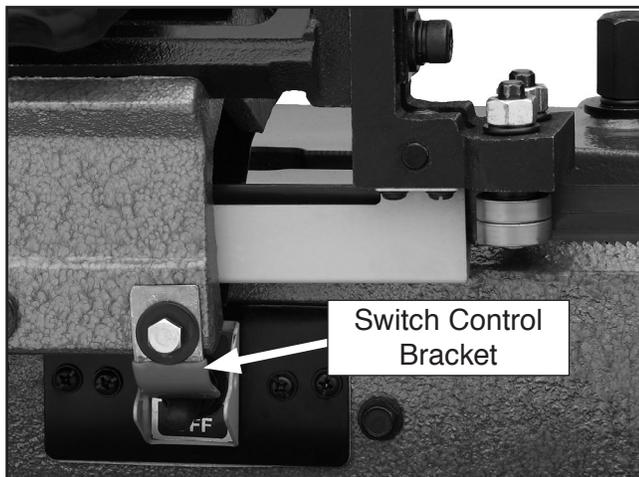

Figure 7. Safety switch bracket.
2. Loosen the hex nut holding the switch control bracket with a 10mm wrench (**Figure 7**). Rotate the bracket so it is positioned over the switch in such a way so when the switch control bracket makes contact with the switch, it will push the switch down and **OFF**.